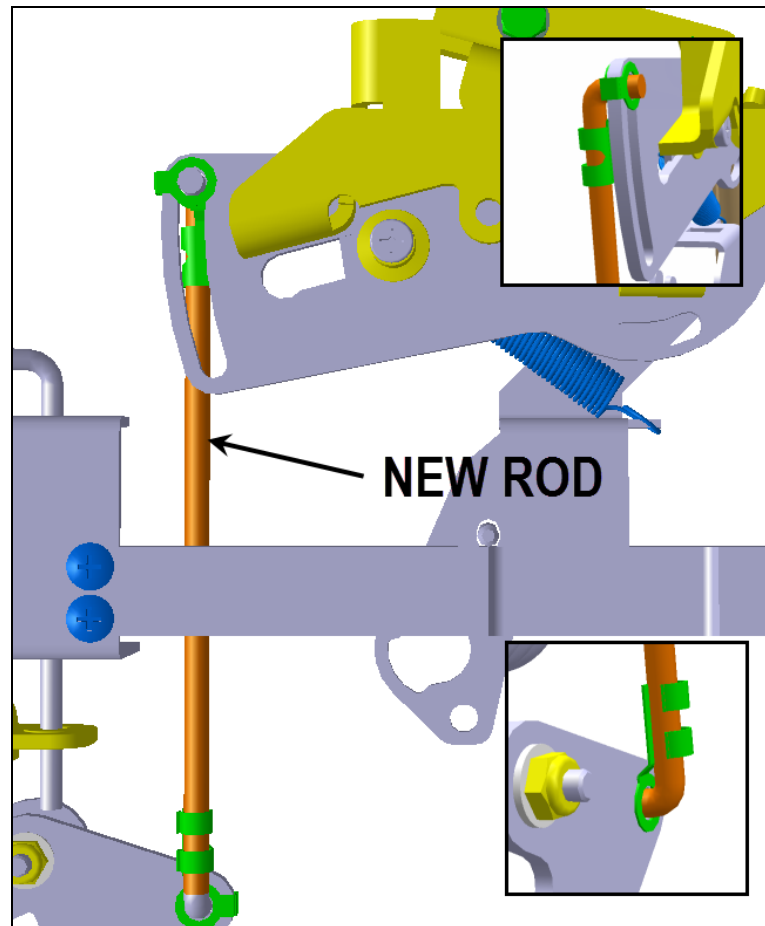

Fig.12
12. Install the new vertical actuating rod previously fitted with retaining clips (Fig.12)